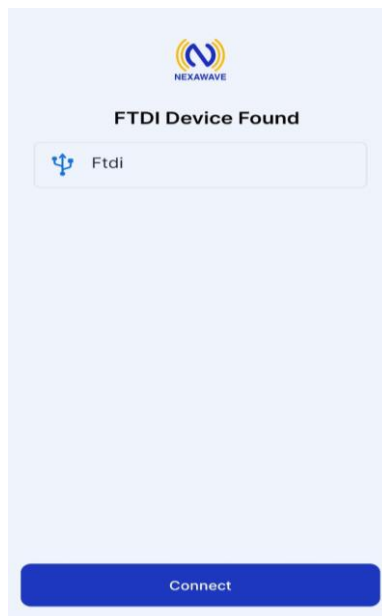

Figure 5-6
- Once connected a prompt window will appear as shown in the figure 5-6 . Click on the FTDI button, home screen of tilt meter node will appear.